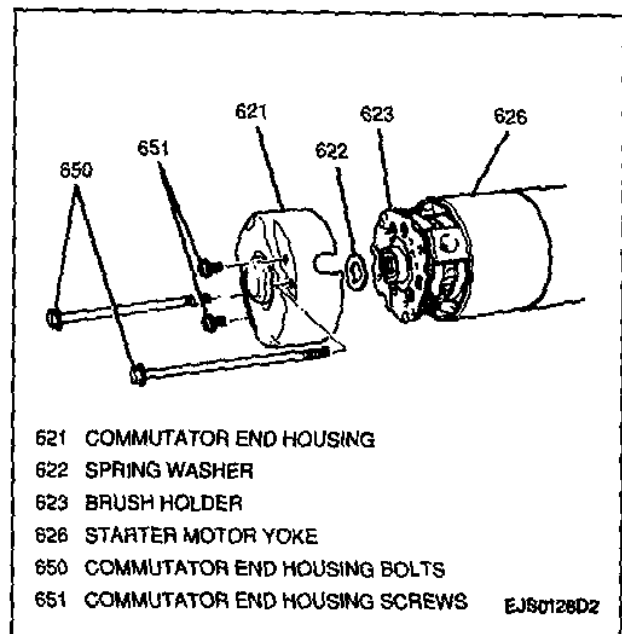

Figure 12—Removing Commutator End Housing
Figures 12 through 19
2. Two bolts, two screws and commutator end housing from drive housing (Figure 12).